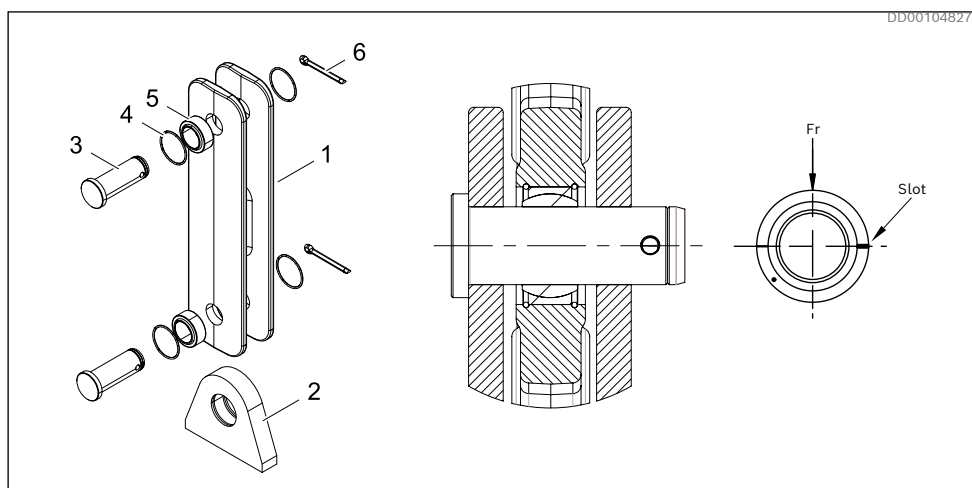

Fig. 22: Standard articulated connection for TC A
- ▶ The articulated connection and the spherical plain bearing (1) must be dismantled during welding. See Fig. 22
- ▶ Steel: EN 10025-3 – S355N (1.0545), shall be protected against corrosion after welding (2).
1. The bearing (5) shall be mounted by using a mounting sleeve or tube applied on the bearing outer ring.
2. The bearing shall be mounted with the slot in the outer ring perpendicular towards the load direction. See Fig. 22
3. Lock the bearings with the circlips (4)
4. Assemble the rest of the components according to Fig. 22